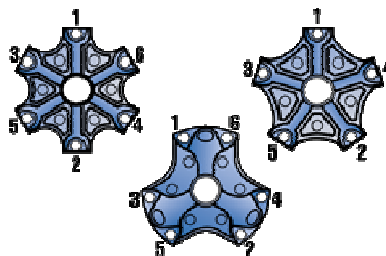

Figure 1: Six (6), five (5), and three (3) spoke wheels
- 1.6 **AFTER BOTH TIRES ARE COMPLETELY DEFLATED**, begin to break lug nuts loose with a few turns of a socket wrench in a "star" or "crisscross" pattern (see Figure 1 for spoke wheel lug nut patterns).
- 2.6 **AFTER BOTH TIRES ARE COMPLETELY DEFLATED**, begin to break lug nuts loose with a few turns of a socket wrench in a "star" or "crisscross" pattern (see Figure 1 for spoke wheel lug nut patterns).
- 3.1.5 Hand-tighten lug nuts in a crisscross or star pattern (see Figure 1).